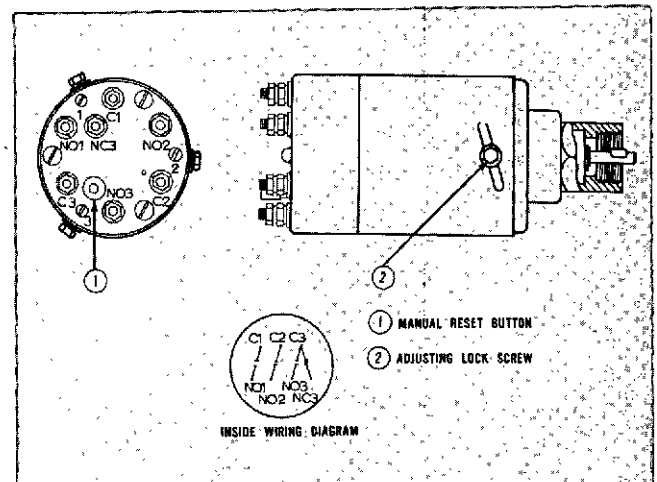

Fig. 15-1-3, CGS26. Single engine control speed switch
1. Connect ohmmeter leads to terminals C and NO. Ref. Fig. 15-1-3.